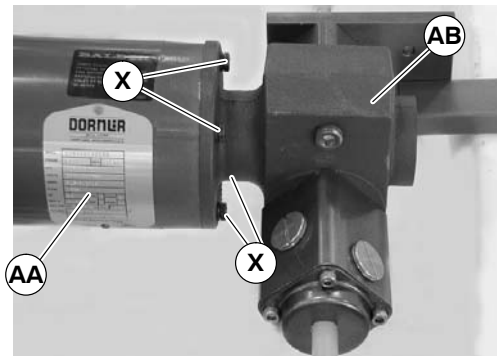

Figure 42
4. Remove four screws (X of Figure 42). Detach motor (AA) from gear reducer (AB). Retain motor output shaft key (Y of Figure 43).